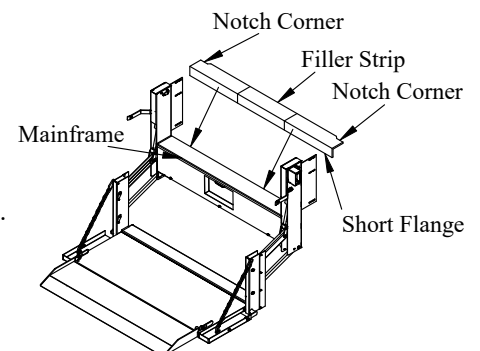

Figure 7: Filler strip placement.
1. **Arrange** the three (3) 19-1/2" G-330 filler strips end to end with the short flange flat against the back of the liftgate mainframe and the top even with the top of the mainframe (Figure 7).
4. **Attach** the three (3) filler strips to the mainframe with the provided self drilling screws.